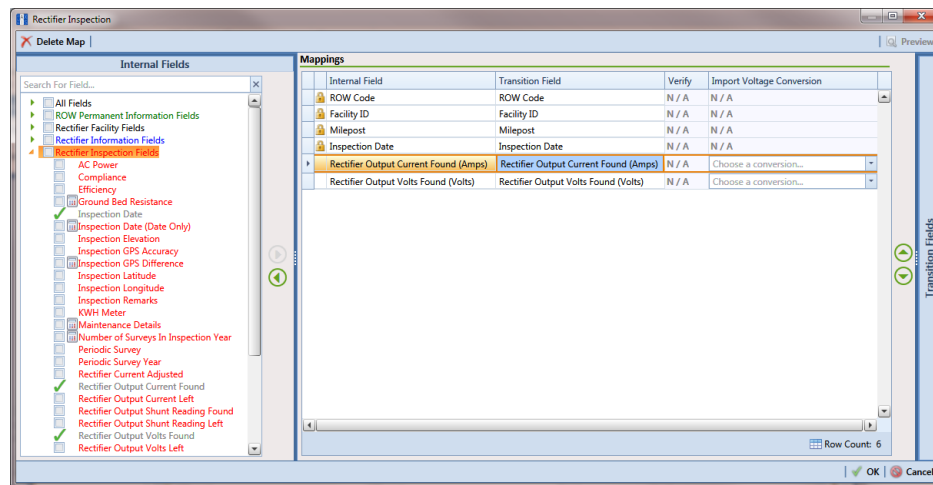

Figure 10-37. Export Field Selections
- a Click **Edit** in the *Maps* group box to open a field selection dialog box (Figure 10-37, page 524).
- b Click the toggle arrow  for a field category listed in the *Internal Fields* panel to view a list of available fields. In the following example, *Rectifier Inspection Fields* is selected (Figure 10-37).